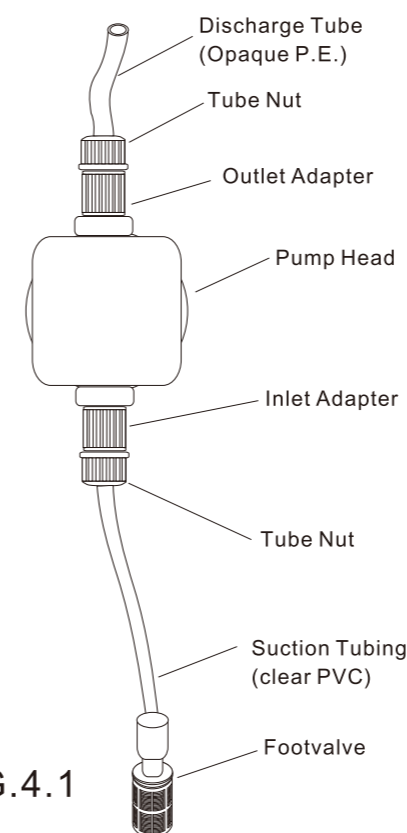

FIG.4.1
**Inlet Tubing-** Locate the inlet fitting of the pump head, see Fig 4.1. Remove the tube nut. Push the clear PVC suction tubing onto the compression barb of the fitting. Use the tube nut to secure the tube. Hand Tighten only.
**Outlet Tubing -** Locate the outlet fitting of the pump head, see Fig 4.1. Remove the tube nut. Push the rigid outlet(discharge) tubing onto the compression barb of the fitting. Use the tube nut to secure the tube. Hand tighten only.